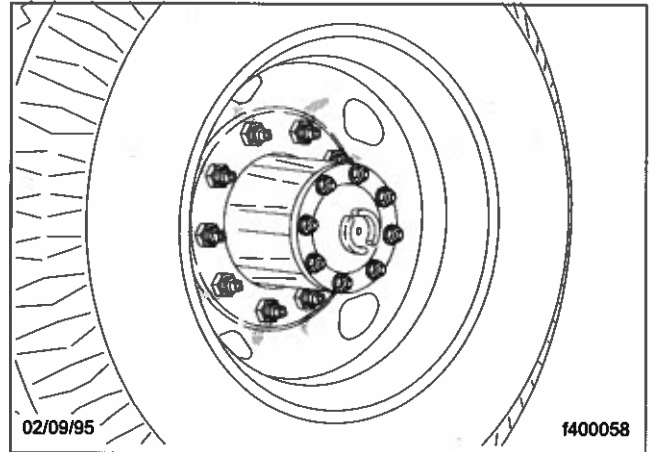
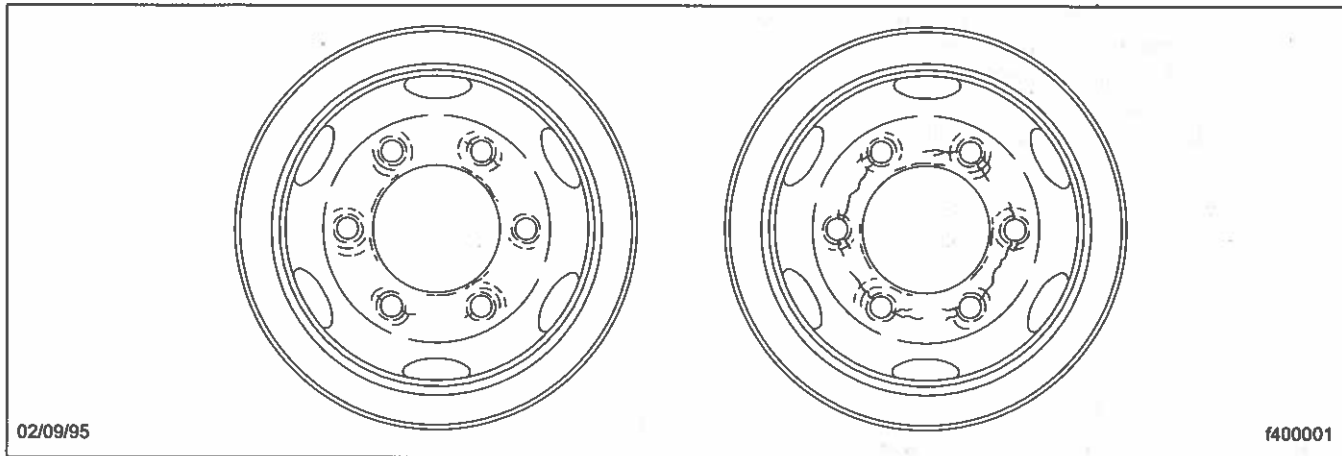

Fig. 11.4, Dirt and Rust Streaks from the Stud Holes
Fig. 11.5, Worn Stud Holes
- 21.1 Remove all dirt and foreign material from the assembly. Dirt or rust streaks from the stud holes, metal buildup around stud holes, or out-of-round or worn stud holes may be caused by loose wheel nuts. See Fig. 11.4 and Fig. 11.5.